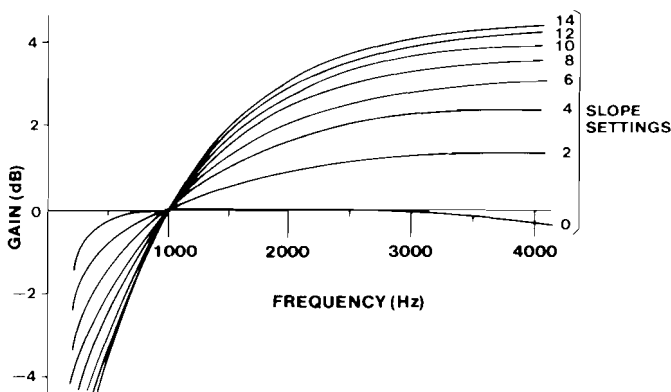
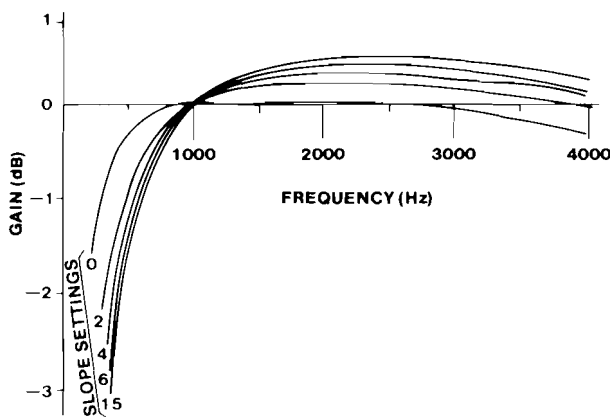

figure 4. Typical response curves for receive equalizer in slope mode, nonloaded cable
figure 5. Typical response curves for receive equalizer in slope mode, loaded cable
2.10 Figures 4 and 5 show typical response curves for the 309B-equivalent equalizers in the slope mode. Figure 4 shows the curves for nonloaded cable, while figure 5 shows the curves for loaded cable. For comparison purposes, all frequency-response curves in both figures are drawn with the same 0dB-gain reference point (1004Hz). Actually, all of these curves except those for a SLOPE switch setting of 0 are raised above the 0dB level at 1004Hz by as much as 11.4dB. The exact amount by which a particular curve is raised depends upon the SLOPE and NL (nonloaded/loaded) switch settings selected. These amounts are listed in table 2.